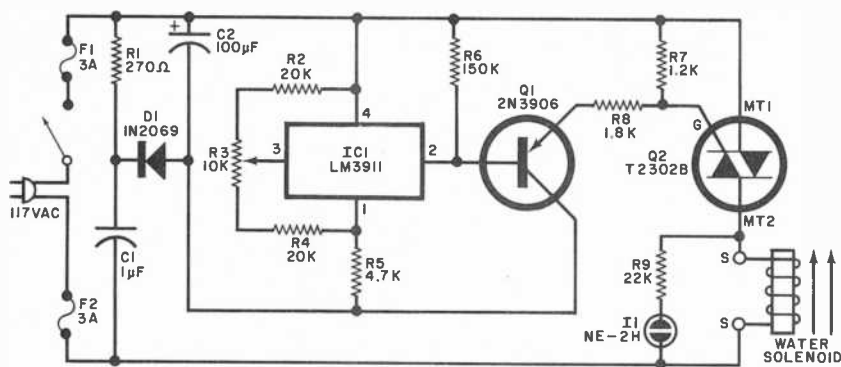

Fig. 1. Temperature sensor IC1, in furnace plenum chamber, determines when solenoid operates to spray fine water mist into chamber.
**Circuit Operation.** The heart of the humidity controller is a special integrated circuit, IC1. This four-terminal LM3911 has an entire temperature-control system on a single chip. Included in this IC are a temperature sensor, stable voltage reference, and operational amplifier. As shown in Fig. 1, the internal op amp is wired as a comparator with external resistors so that the pin-2 output switches voltage as the temperature of the IC's case traverses the set-point determined by the reference voltage on pin 3. Since the IC has a built-in 6.8-volt reference supply, the temperature switch-point of the controller is held stable regardless of power-line voltage.
Note that IC1 mounts off the board, inside the heated-air chamber (plenum) of your furnace, where it will be able to sense burner operation. Connection between IC1 and the board is accomplished with a four-conductor, preferably color-coded, cable. Pay strict attention to pin connections when wiring IC1 to the board via its cable, referring back to Fig. 1 as necessary. (The length of the interconnecting cable is not critical.)